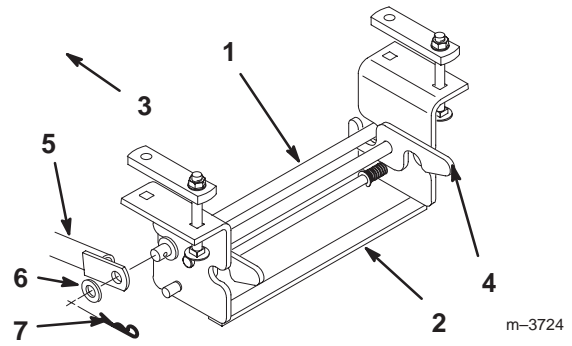

Figure 29
- Remove the other ends of the two support braces from the rear Attach-A-Matic™ hitch mount by removing the hairpin cotters and washers (Fig. 29).
- Release the latches on the rear Attach-A-Matic™ hitch and remove the support rod link (Fig. 29).